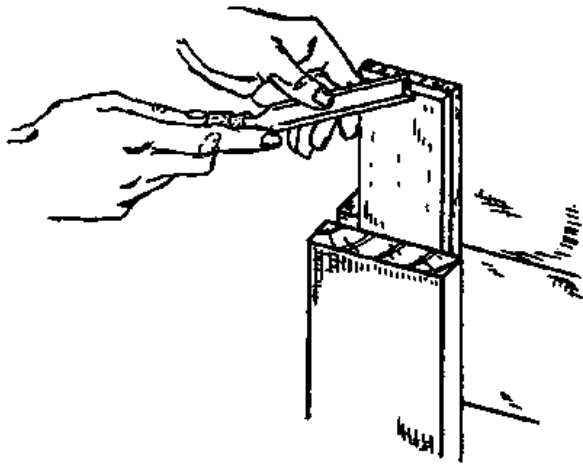

Fig. 1
- Cut with the bevel side up, raising the handle just enough to make the chisel cut. For heavier chiselling and for rough cuts, the mallet may be used as is shown in Fig. 1.